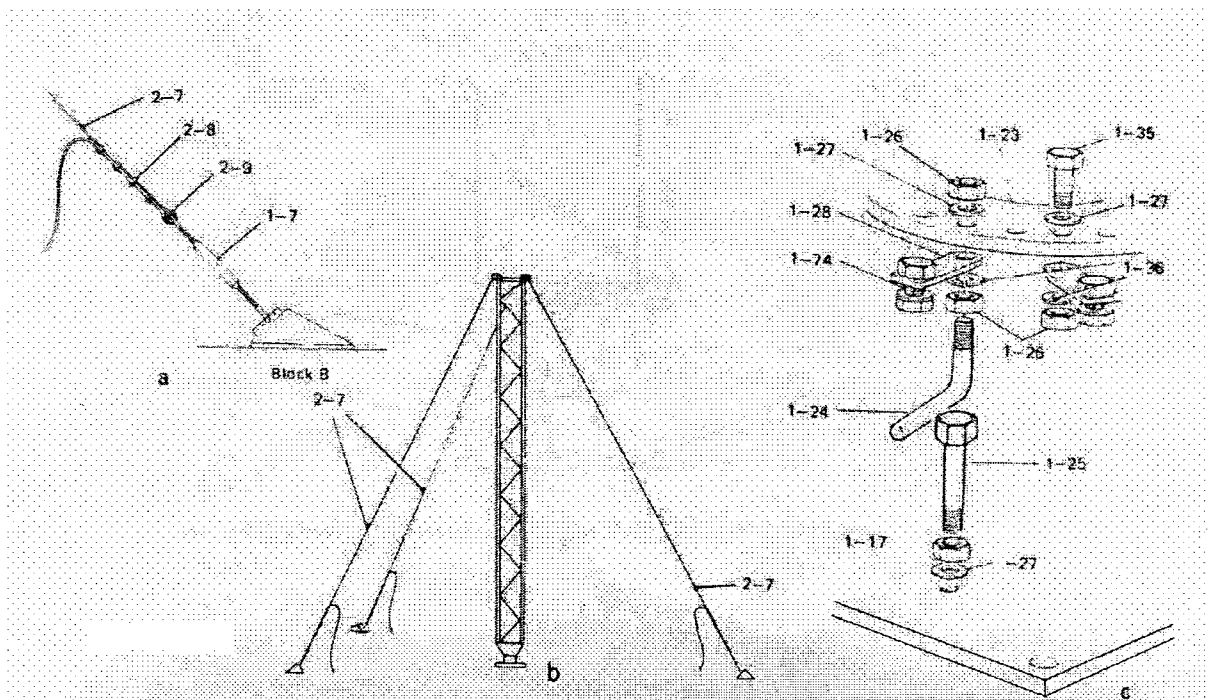

FIGURE 7 – Temporary Guys and Spark Gap
Step 8 - The temporary mast guys should now be secured to the three foundation blocks, as shown in Fig. 7(a). Fully extend the rigging screw (1-7) and attach it to the foundation block. Fit a thimble (2-9) to the other fork end of the rigging screw. Pull the temporary mast wire stay (2-7) tight round the thimble and secure with Bulldog grips (2-8), as shown in Fig. 7(a).
Do not cut off any spare lengths of the temporary mast guys, because they will be required later to support higher sections of the mast. When the three temporary mast guys have been secured, tension them correctly by adjusting the rigging screws, ensuring that the mast section remains vertical. (See Fig. 7(b)).
Step 9 - Fit the lightning arrestors (1-24 and 1-25) to the insulator top unit (1-23) and base plate (1-17), as shown in Fig. 7(c). Item (1-25) should be fitted to the base plate first, and then item (1-24) fitted together with one of the antenna base fastening brackets (1-28) to the insulator top unit. After both items have been fitted, they are to be adjusted so that the rounded end of (1-24) touches the side of item (1-25). This ensures that the mast and antenna are connected to EARTH during installation work.